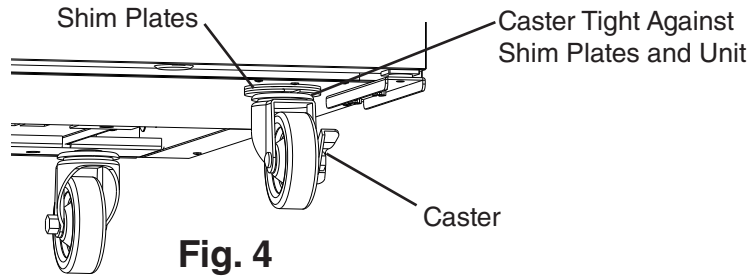

Fig. 4
- 4) Tighten the caster. See Fig. 4. **NOTICE! Make sure the caster is tight and no slack is left between the caster, shim plates, and appliance.**